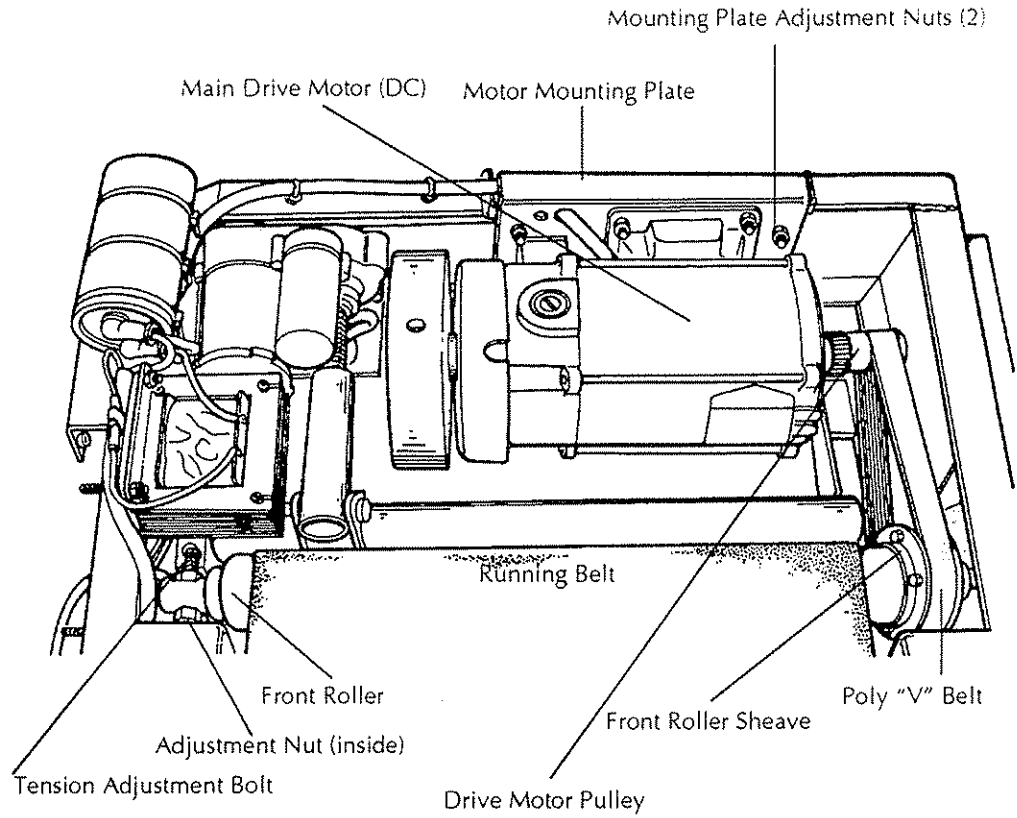

Figure 5-13: Replacing the Front Roller
4. Remove the two tension adjustment nuts securing the upper portion of the motor mounting plate to the treadmill frame. See Figure 5-13.
Tilt the main drive motor (DC) forward, towards the rear of the treadmill, and remove the Poly "V" belt from the drive motor pulley. See Figure 5-13.
6. Loosen the inside nut located on the front roller's tension adjustment bolt. See Figure 5-13.
7. Lift the left side of the front roller until its "milled" shaft has cleared the tension adjustment bolt. See Figure 5-13.
The front roller is now free to be removed from the treadmill by lifting it up and sliding it through the running belt. See Figure 5-13.